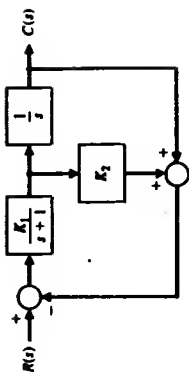

Figure 1.
- A control system has the structure shown in Fig. 1.